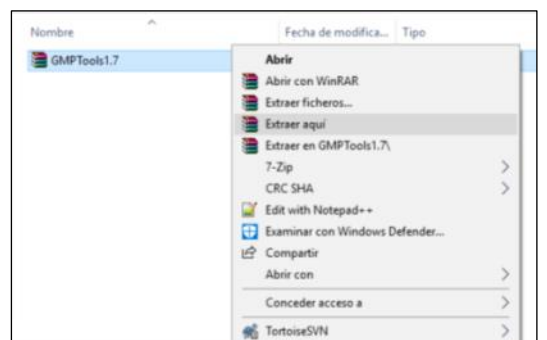

Fig. 2.3
- Unzip the GMPTools file. Click with the right button on the GMPTools file and then select **Extract Here** (Fig. 2.3).